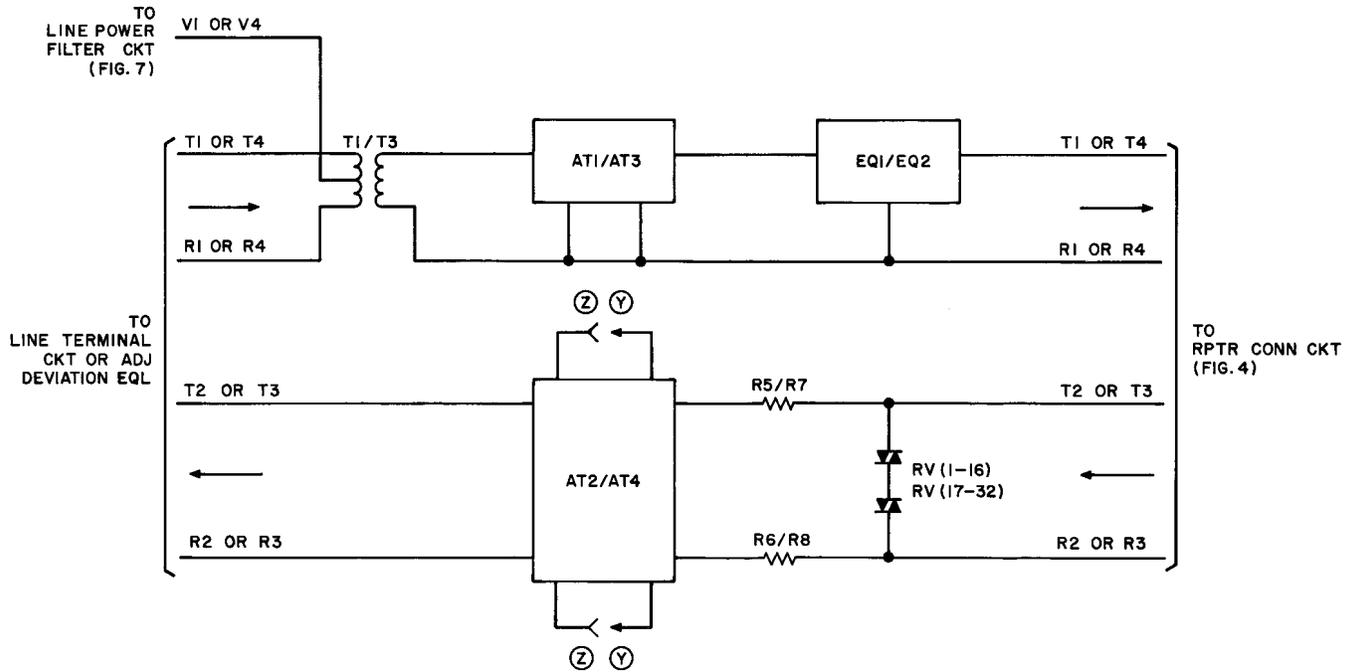

Fig. 5 — Line Build-Out Circuit (In Repeater Mounting Shelf)
3.03 The line build-out circuit, illustrated in Fig. 5, connects to the repeater connecting circuit and is identical for both the east and the west directions of transmission. The receiving or input cable pairs from the east transmission line connect to transformer T1 over leads T1 and R1. Transformer T1 matches the impedance of the line to the impedance of the build-out circuits.